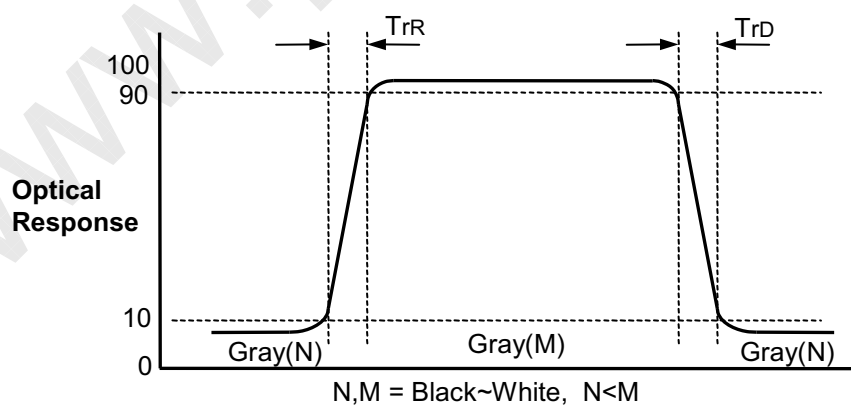

FIG. 3 Response Time
4. Response time is the time required for the display to transit from G(N) to G(M) (Rise Time,  $\text{Tr}_R$ ) and from G(M) to G(N) (Decay Time,  $\text{Tr}_D$ ). For additional information see the FIG. 3. (N<M)